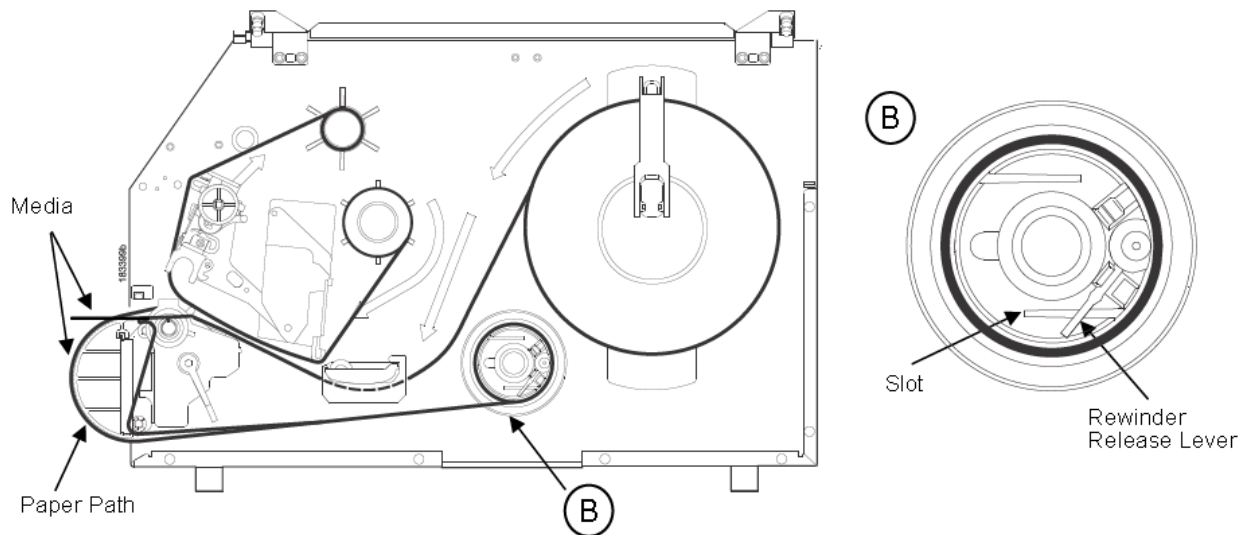

Figure 2 Loading Media
1. To load media, refer to *Figure 2* and follow “Loading Media” steps 1 through 9 on page 34.
8. Complete the media routing as shown in *Figure 2*.